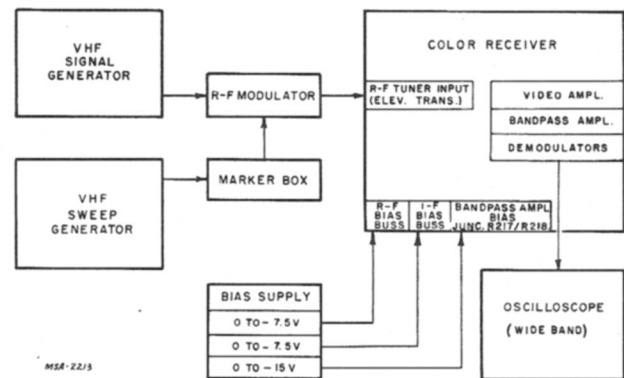

Fig. 173—Block Diagram—Video and Bandpass Amplifier Alignment.
To align the video and bandpass circuits, set up the equipment as indicated in the block diagram, figure 173.
2. Set the VHF sweep generator for 50 kc. —5 mc. sweep output and connect the Video Marker (WG-295A) between the sweep output and the R-F Modulator (WG-304A) sweep input. See figure 173.